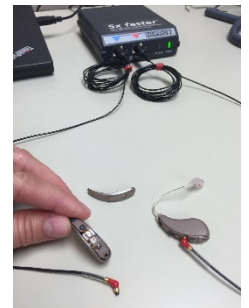

Figure 18: Processor set-up
- c. Connect the Processors to the HI-PRO 2, using programming cables (Figure 18).